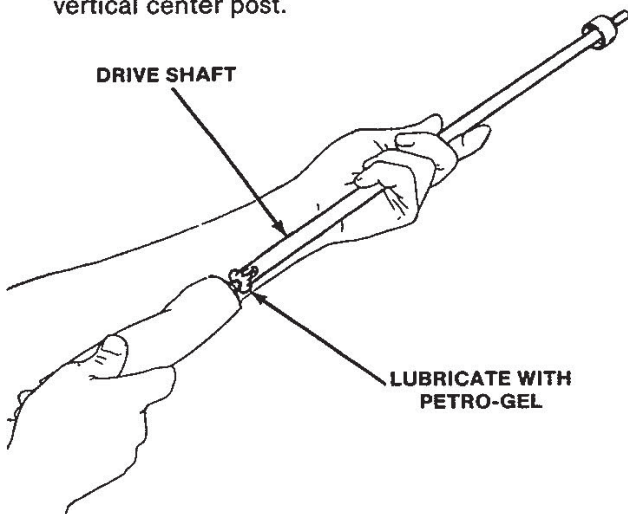

Figure 27. Lubricating Drive Shaft
1. Before installing the drive shaft, lubricate the bottom with Petro-Gel or any other type of sanitary lubricant. Enough lubricant must be applied to create approximately a 1/8 inch bulge at the bottom of the drive shaft (Fig. 27). This will provide enough lubricant to allow the top center post bushing and top of the drive shaft to be lubricated as the drive shaft is pushed down the vertical center post.